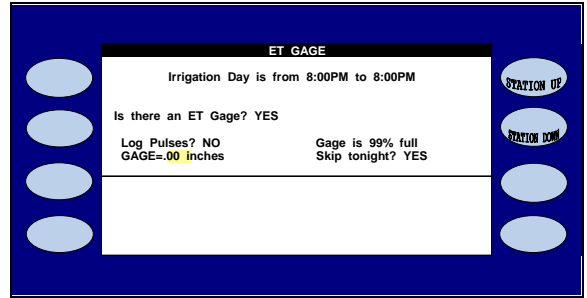

Figure 8
- 11.  Press the blue **ARROW** key to move the cursor to the **GAGE =.00 INCHES** (Figure 8).